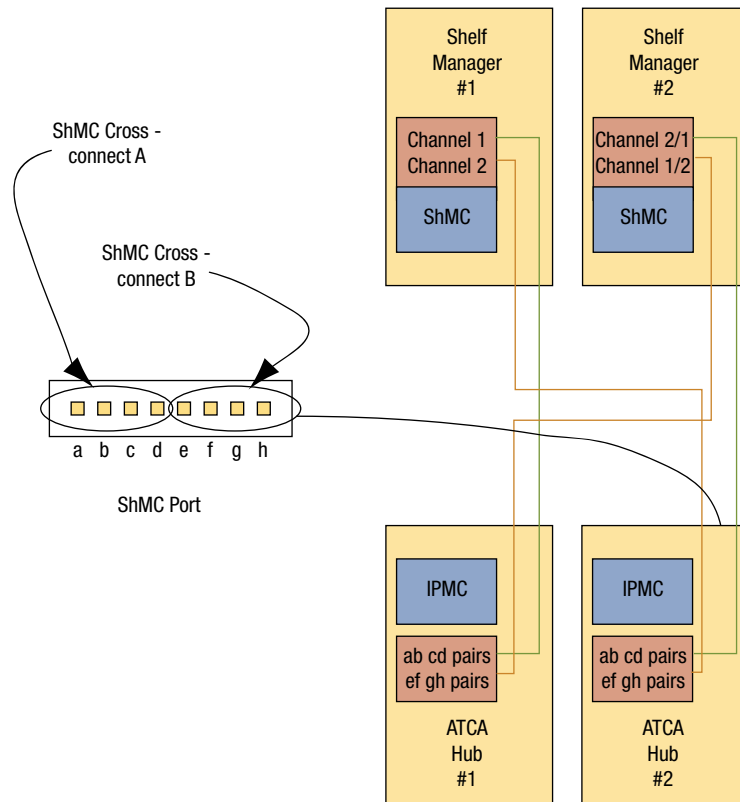

Figure 2 The connections enabled by PICMG's ECN 3.0-2.0-001 include ShMC cross-connects that link both ShMCs to both hubs.
As a result, vehicles such as battle tanks and UAVs, which might formerly have had 1553 sensor data coming in, and 1553 and more RS-422 data out, are being enhanced with 1394B, Gigabit Ethernet and FPDP to handle the higher speed data of today's applications. In the past, higher compute requirements had been typically addressed through the use of proprietary secondary buses like RaceWay, SkyChannel, Myrinet and StarFabric, which provide no standard way of connecting multi-vendor components together. VITA 46, in comparison, delivers a standard architecture that eliminates the need for secondary data buses while preserving the user's investment in VME64x hardware and software (Figure 2).
Figure 2 shows the connections enabled by ECN 3.0-2.0-001, including how the two 2-pair ShMC cross-connects are mapped into a single 4-pair ShMC port on each hub board. When two 2-pair connections—which can each support a 10/100 Mbit/s link—are mapped into a 4-pair connection—which could otherwise support a single 10/100/1000 Mbit/s link—the tradeoff is a reduced data rate
**Figure 2** The CPC6314 from Performance Technologies is a 325W DC power supply that combines high power capacity and industry standard IPMI management capability with monitoring and reporting.